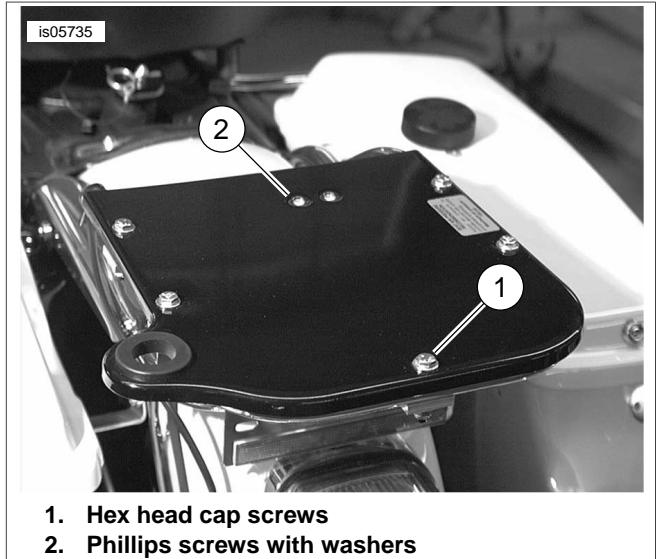

Figure 1. Remove Radio Tray and Hardware - '08 & earlier shown
1. See Figure 1. Remove the hex head cap screws (five screws for '08 and earlier and four screws for '09 and later) and two smaller Phillips screws (with washers) securing existing radio tray to mounting rail. For '08 and earlier models leave the two rectangular license plate spacers and set aside three remaining spacers. Discard screws and washers, but save nuts for installation later. Discard radio tray.